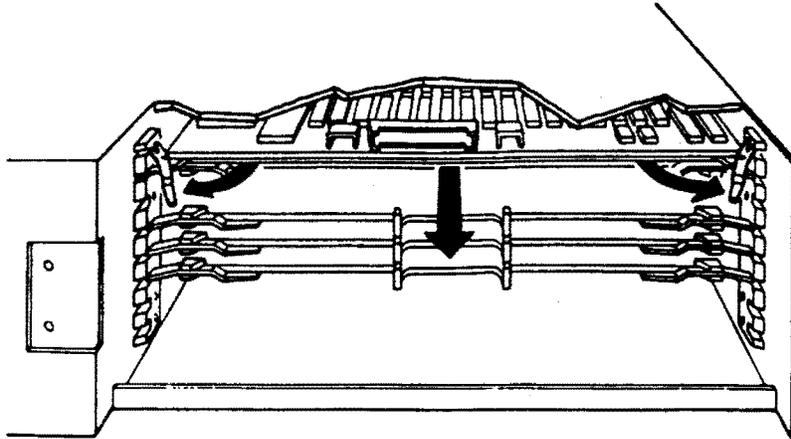

Figure 6-5: Module Removal
8. Pull the levers at each end of the module to release it, and carefully pull the module toward you (Figure 6-5).